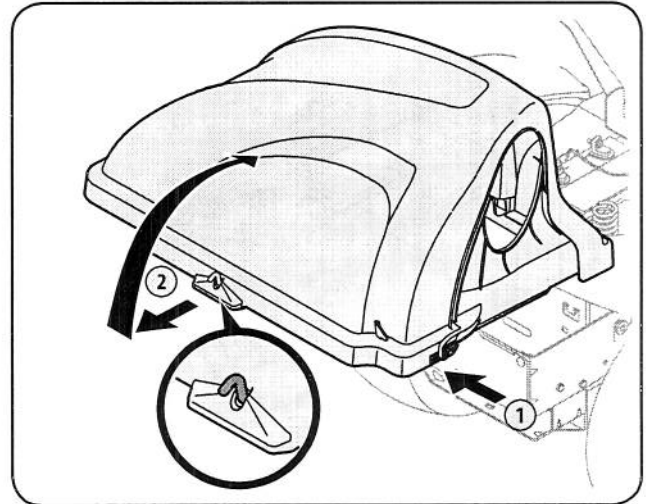

Figure 4-18
- Open Hood by pushing in on the rear, right-side tab with your right hand, as seen in 1 of Fig. 4-18, and lifting the cover with your left hand in the center rear of the bagger cover, 2.